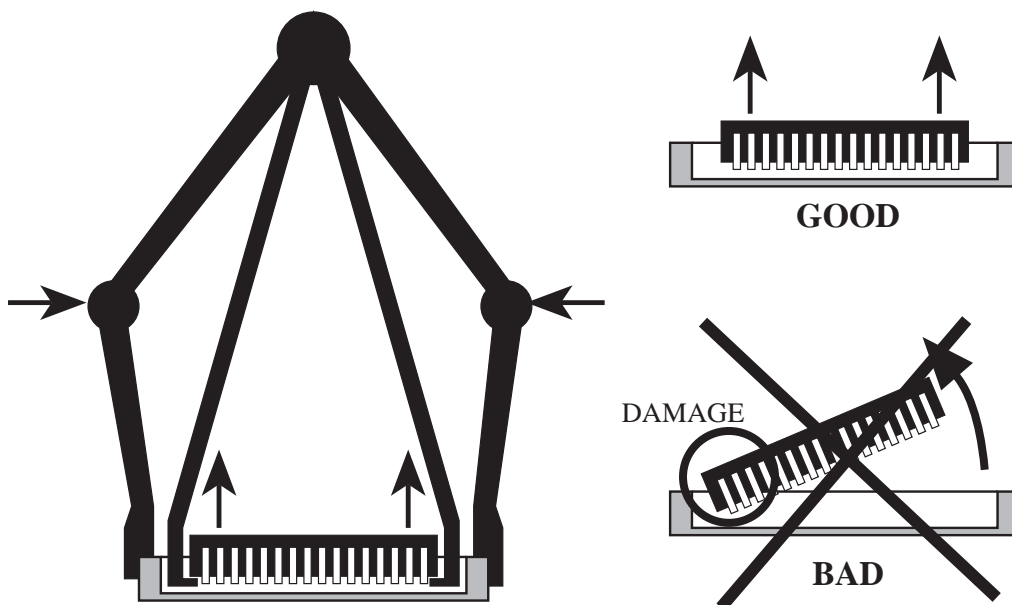

Figure 37: Correct and wrong ROM extraction operation. On the left, the ROM extraction tool.
- Use a specific extraction tool to push out the EPROM, very carefully, and in a parallel way as indicated in figure 37.